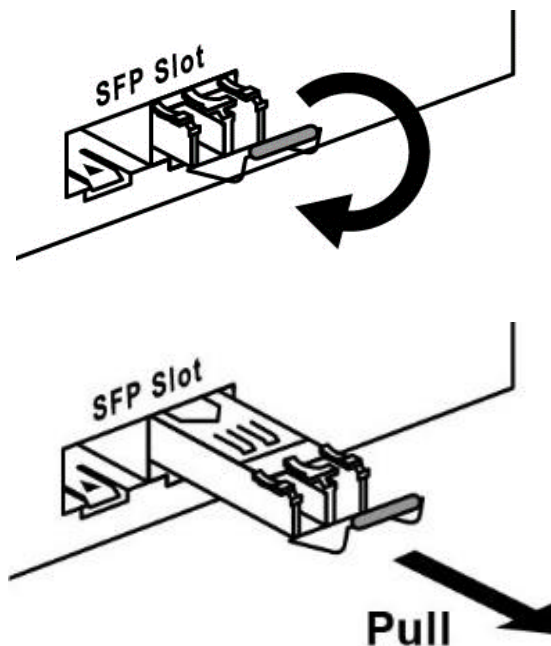

Figure 2.8: Pull Out from the SFP Slot
- Step 2 Push down the metal clasp and pull the transceiver out by the plastic part as shown below in Figure 2.8